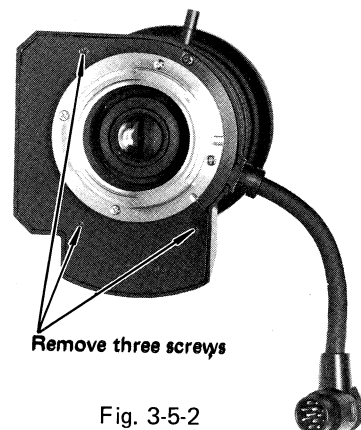

Fig. 3-5-2
- Remove three screws which hold the iris back cover and remove the iris back cover. (Fig. 3-5-2)